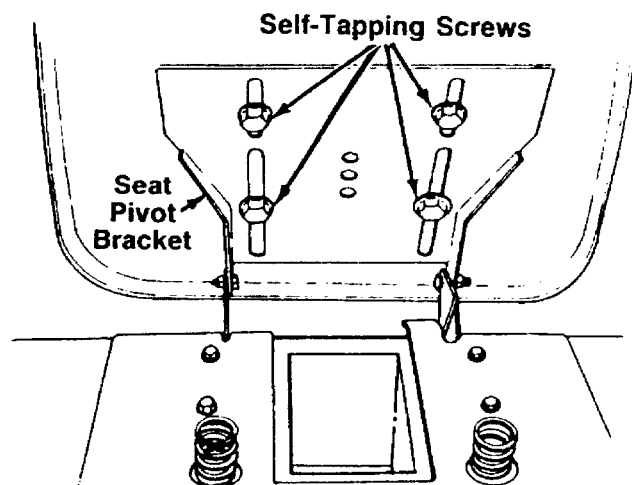

FIGURE 5.
- Place the seat in position against the seat pivot bracket, lining up the slotted holes in the pivot bracket with the holes in the seat. Select desired position for the seat, and secure with self-tapping screws. See figure 5.